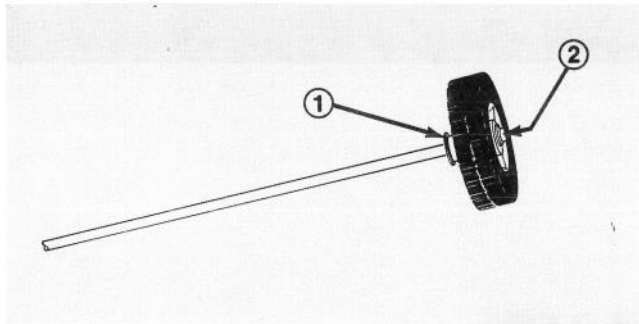

Figure 1
1. Install one push nut onto end of axle (Fig. 1) by placing nut on flat surface, inserting end of axle shaft and striking opposite end of shaft lightly with a hammer.
2. Slide wheel onto axle and against push nut (Fig. 1). Make sure hub side of wheel with six spokes is toward center of axle.
3. Slide flatwasher onto end of axle and against side of wheel hub (Fig. 1).